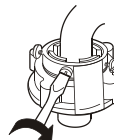

Figure 4
3.Fasten the four screws evenly. See to Figure 4.